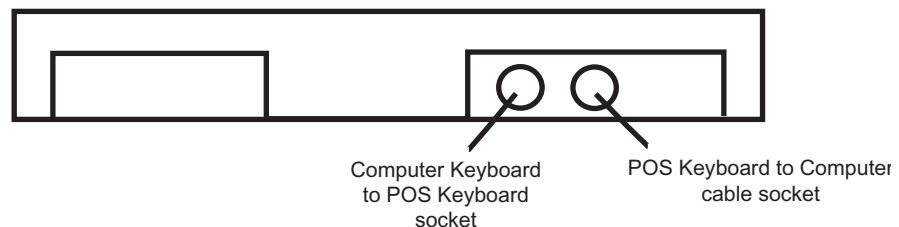

Figure 3.4 Rear of POS Keyboard
3. Insert one end of the POS Keyboard cable into the Computer Keyboard. See Figure 3.4.